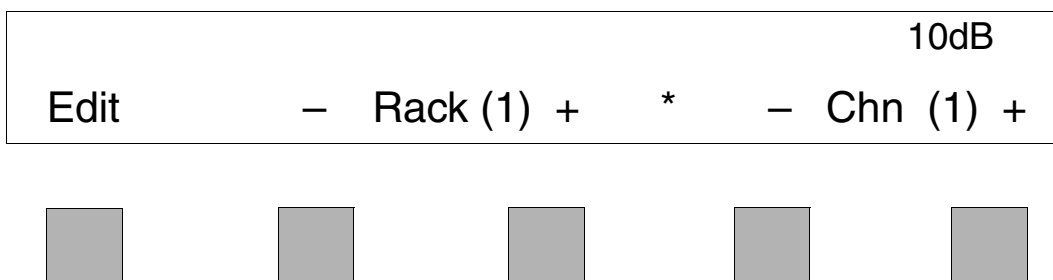

FIG 4-7. RM16 root menu
- From the RM16 Root menu (see FIG 4-7. RM16 root menu) select **Edit** by pressing the associated illuminated button below the menu.
Select which rack is to be named by pressing the **- Rack ( ) +** buttons located beneath the menu screen. This will increment or decrement the active Rack number. See FIG 4-7. RM16 root menu.
Select the Rack containing the channels that require naming by pressing the - **Rack ( )** + buttons located beneath the menu screen. This will increment or decrement the active rack number. See FIG 4-7. RM16 root menu
From the RM16 root menu (see FIG 4-7. RM16 root menu) select **Edit** by pressing the associated illuminated button below the menu.
To select which rack is to be controlled, press the - **Rack ( ) +** buttons located beneath the menu screen. This will increment or decrement the Rack number. The Rack name will be displayed in the top row of the Root menu. See FIG 4-7. RM16 root menu